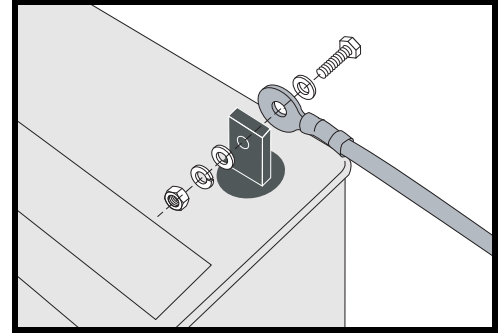

Figure 15. Battery Removal/Installation
4. Disconnect the battery cables from the battery terminals by sliding back the terminal boots and unscrewing the nut from the bolt. See figure 15.